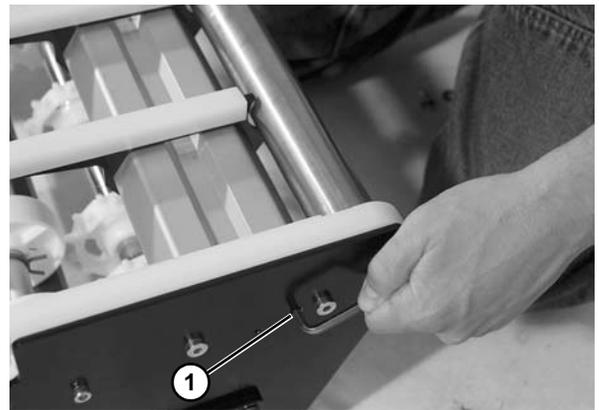

**Figure 64**
19. Slide entire sprocket assembly slightly outward, and remove the first sprocket (**Figure 64, item 1**) off the drive spindle (**Figure 64, item 2**) and alignment bar (**Figure 64, item 3**).
20. Remove remaining sprockets (**Figure 64, item 4**) off the alignment bar as you slide entire assembly off the drive spindle.
22. Install second sprocket and subsequent sprockets (**Figure 64, item 4**) one by one, while sliding entire assembly onto alignment bar (**Figure 64, item 3**) and spindle (**Figure 64, item 2**).